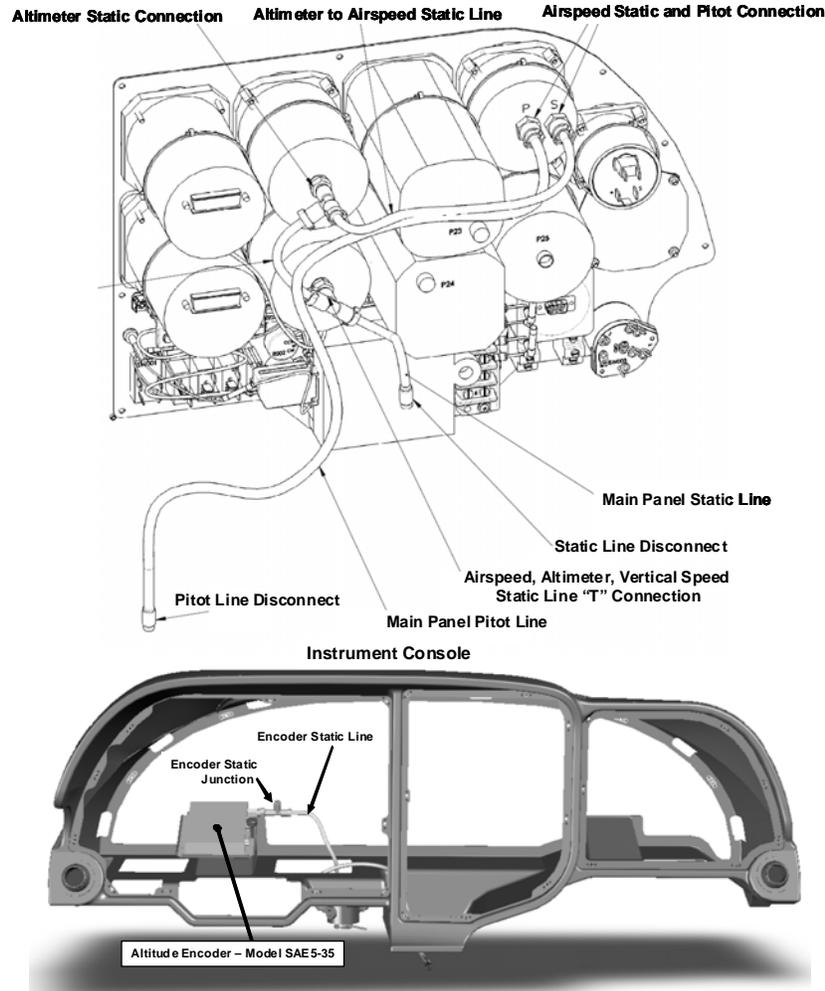

Figure 34-4 Instrument Panel Pitot/Static Connections
5. Gently pull the instrument panel towards you, placing it face down on to the block of soft foams rubber. The pitot connection (rear of airspeed indicator) and static connections (“T” or “L” junction) connect to the airspeed indicator, altimeter, vertical speed indicator, and altitude encoder). See Figure 34-4 for location of the pitot/static lines.